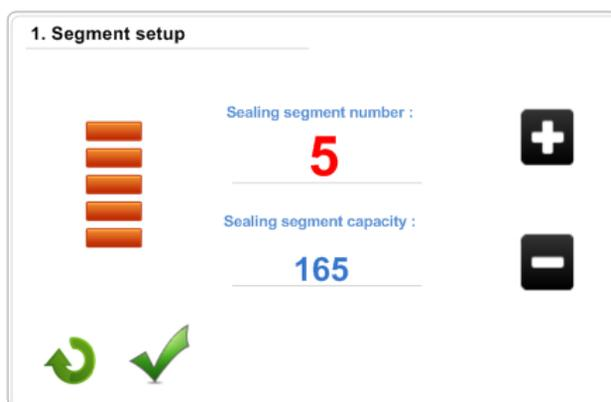

Figure 5: Segment setup Screen 2/2
d. After choosing the number of your segments, save the setting by touching  icon in order to apply the setting for your next sealing. When it is saved the icon turns into  as Figure 5.